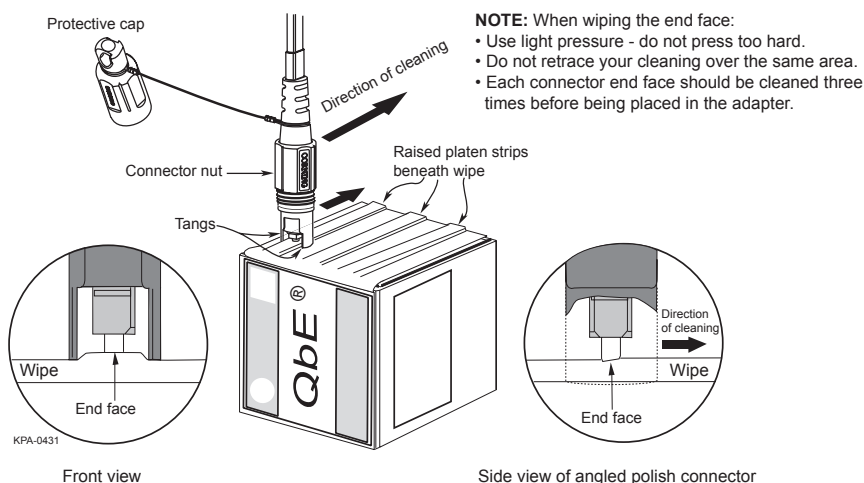

Figure 3
- Step 2:** **Hold the connector so that the connector key with the cast-in arrow faces away from you to ensure that the Premier connector angled end face is facing the direction of cleaning (see Figure 3).** Align the connector keys so that the connector ferrule end face is centered on one of the three raised strips on the platen.
- Step 4:** Pull the connector end face lightly over the platen away from the wipe's fold in a smooth linear motion (Figure 3).